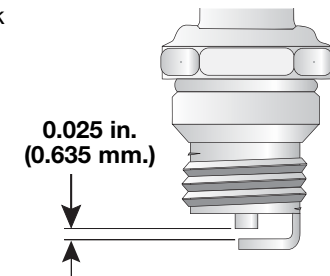

Fig. 34
- Replace cracked, fouled or dirty spark plug. Set the air gap at 0.025 in. (0.635 mm.) using a feeler gauge (Fig. 34).